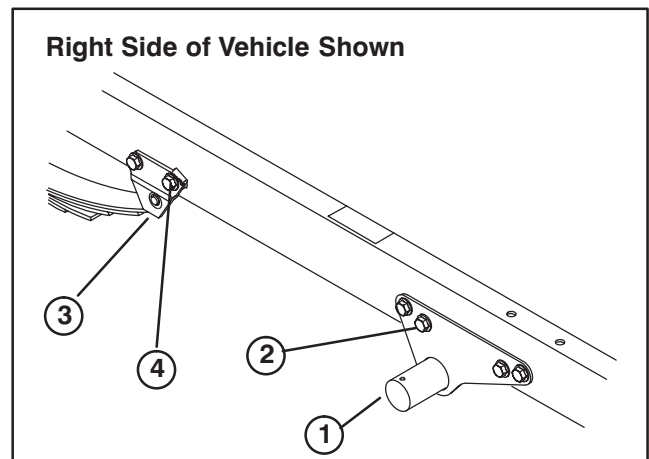

Figure 3
6. Remove the flange screw and locknut, shown in figure 3, securing engine frame to right side of vehicle frame.
8. Remove the front flange screw and locknut securing leaf spring mount to right side of vehicle frame (Fig. 3).